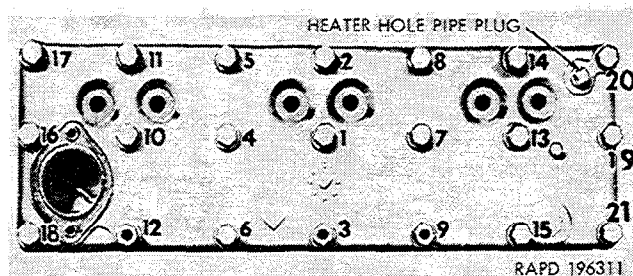

Figure 2-1. Tightening sequence for cylinder head screws.
(1) When the engine has thoroughly warmed up to operating temperature, check the tightness of the cylinder head capscrews with a torque-indicating wrench as to the torque and in the sequence prescribed in (2) below.
(2) Tighten cylinder head capscrews to 65-70 foot-pounds torque as indicated in figure 2-1.